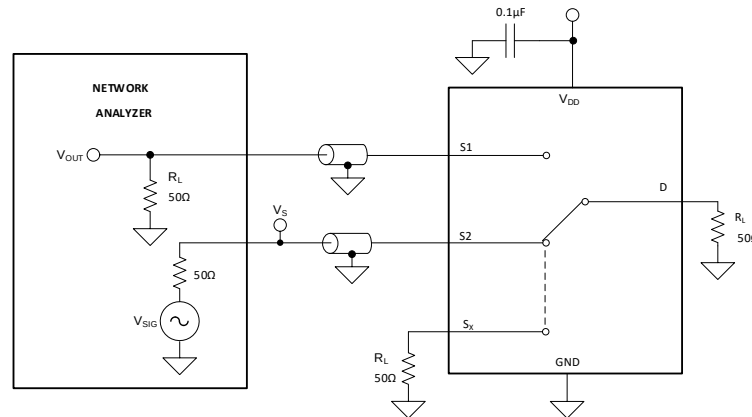

Figure 15. Channel-to-Channel Crosstalk Measurement Setup
Crosstalk is defined as the ratio of the signal at the drain pin (D) of a different channel, when a signal is applied at the source pin (S_x) of an on-channel. Figure 15 shows the setup used to measure, and the equation used to compute crosstalk.